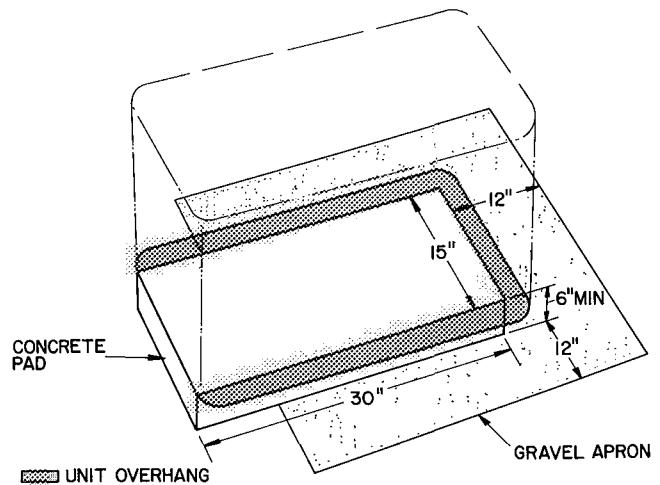

Fig. 2 – Concrete Pad Dimensions
Step 4 – On the Ground: Mount Unit on a Solid, Level Concrete Pad. See Fig. 2 for pad dimensions. Position unit so that coil drainage holes in base pan overhang the pad. Make sure pad does not obstruct drainage holes (holes drain water during heating and defrost cycles). Unit can be attached to pad with mastic adhesive or by drilling holes in base pan for 1/4-in. mounting bolts.